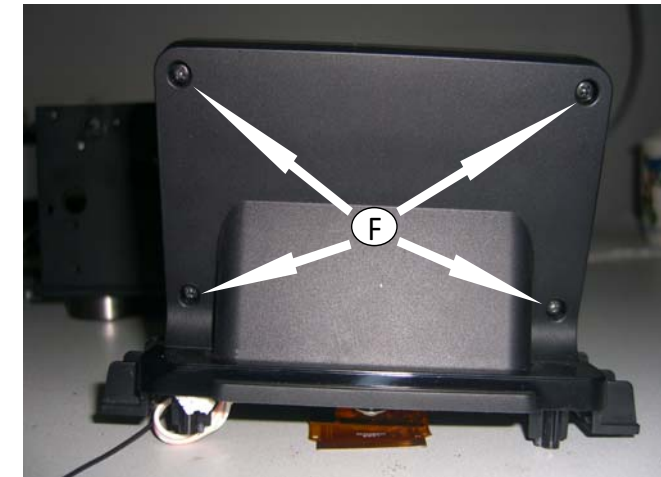

Figure 6
- 1) Loosen 4 screw "F" to detach IR Board as shown in figure 6.